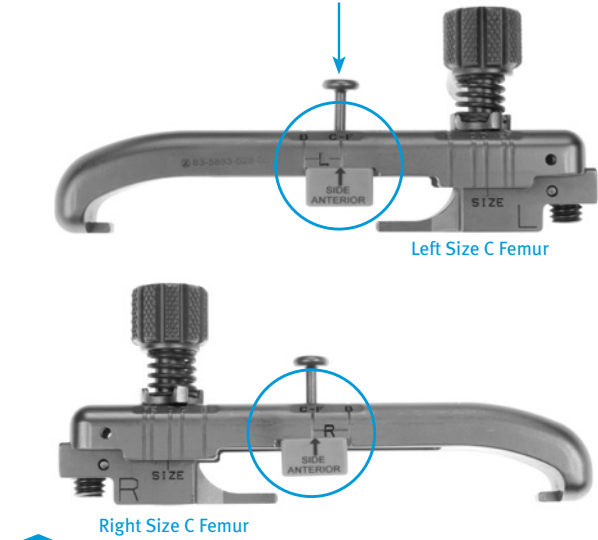

Fig. 150
- Adjust the orientation of the tension pad on the Condylar Trephine Guide by pressing the capture button so that the tension pad is disengaged and slide the capture button so that it is in the hole that corresponds to the size of the femoral component (Fig. 150).